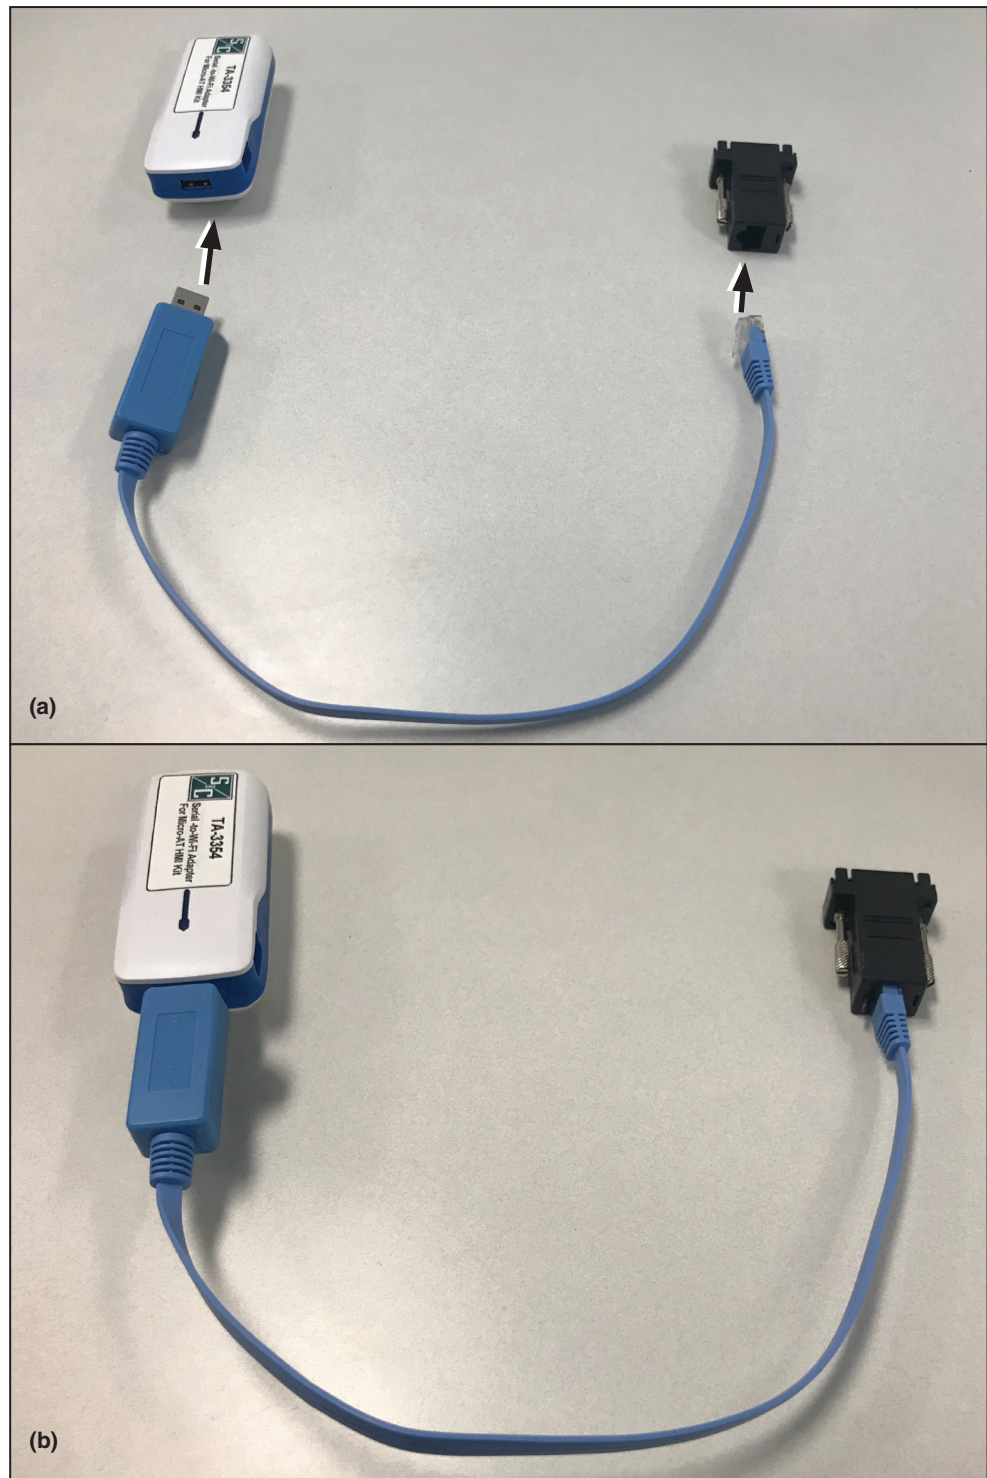

Figure 8. Connecting the RJ45 cable (blue cable) to the Wi-Fi adapter and the RJ45-to-DB9 connector.
STEP 2. Connect the supplied blue RJ45 serial cable to the USB port on the Wi-Fi adapter. See Figure 8(a). Also connect the RJ45 end to the RJ45-to-DB9 connector. See Figure 8(b).